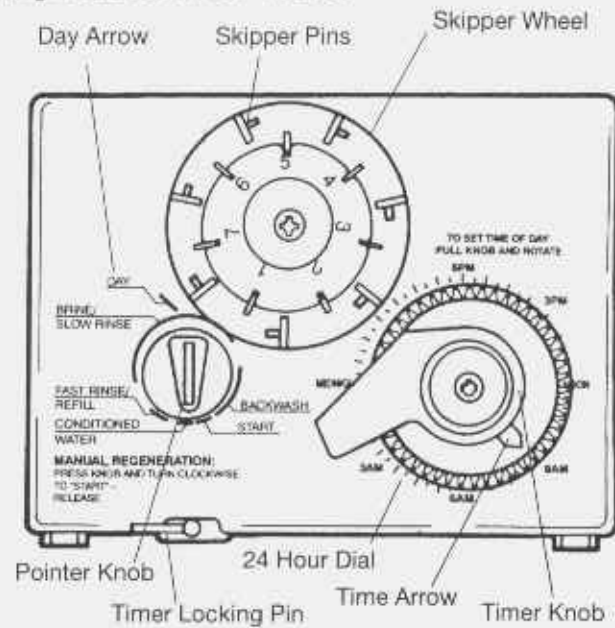

Figure 8
**Note:** The following steps will require turning the pointer knob (Figure 8) to various positions. Insert a wide-blade screwdriver into arrow slot in pointer knob and press in firmly. With knob held in, rotate **COUNTERCLOCKWISE** only until arrow or knob points to desired position. (Rotation is made much easier if you grasp the camshaft with your free hand and turn it at the same time.) Then permit knob to spring back out.
- Insert screwdriver into slot in pointer knob (Figure 8). Press in and rotate knob **COUNTERCLOCKWISE** until arrow points directly to the word **BACKWASH**.
1. Set days of regeneration on skipper wheel (Figure 8).
- Rotate in either direction until the timer arrow points to the actual time of day (Figure 8).
**Note:** The Timer Locking Pin should always be horizontal (Figure 8) during operation.
When abnormally high water usage exhausts your water conditioner's capacity ahead of schedule, an extra regeneration can be achieved by depressing the pointer knob with a wide-blade screwdriver and turning **COUNTERCLOCKWISE** to **START** (Figure 8). It will take a few minutes for regeneration to start. Normal regeneration schedule will not be disrupted.
Electricity is used only to run the timer and to rotate the camshaft. All other functions are operated by water pressure. Therefore, in the event of a power outage, all the regeneration positions may be dialed manually by depressing the pointer knob and turning **COUNTERCLOCKWISE** (Figure 8). Manual time cycle: **BACKWASH**—14 minutes; **BRINE/SLOW RINSE**—52 minutes; **FAST RINSE/REFILL**—10 minutes. Do not exceed 10 minutes for the **FAST RINSE/REFILL** cycle as this will cause excessive salt usage during the next regeneration and possibly a salt residue in the softened water.